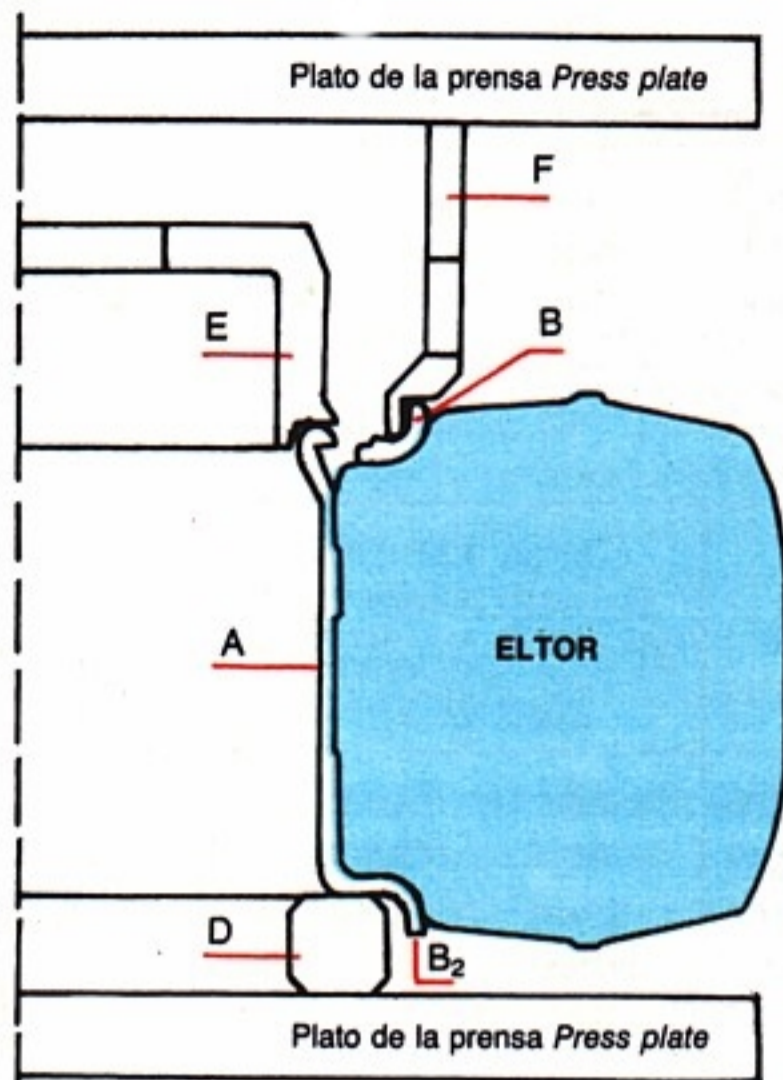

Fig.1
5. Cerrar la prensa lentamente cuidando que en el punto B₂ no se desplace la rueda **DUNLOP** (Fig.1).
5. Close the press slowly taking care that the **DUNLOP** tyre is not displaced from point B₂ (Fig. 1).